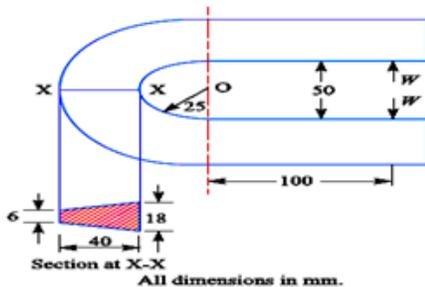

Fig.6
9. The frame of a punch press is shown in fig.6. Find the stress at the inner and outer surface at section X-X of the frame, if $W=5000\text{N}$.